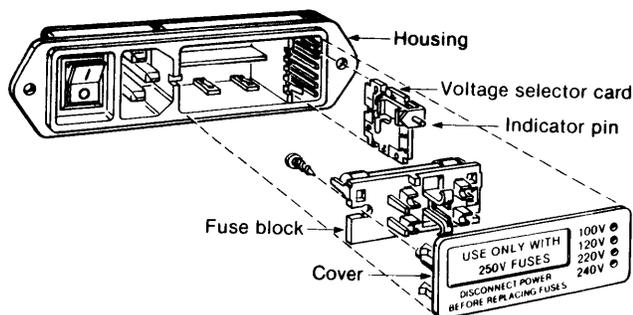

fig. 9 -- Accessing the Voltage Selector Card;
- a Open the cover using a small blade screwdriver or similar tool. Set aside the cover/fuse block assembly and pull the voltage selector card straight out of the housing. See fig. 9 on accessing the voltage selector card.